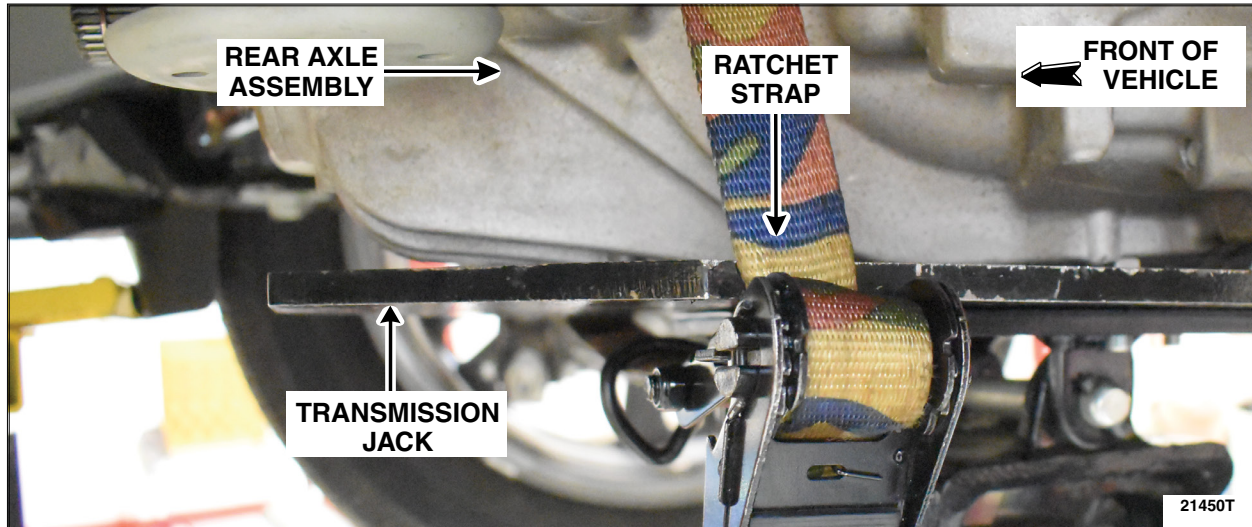

FIGURE 2
5. Secure the rear axle assembly to the transmission jack using a ratchet strap. See Figure 2.